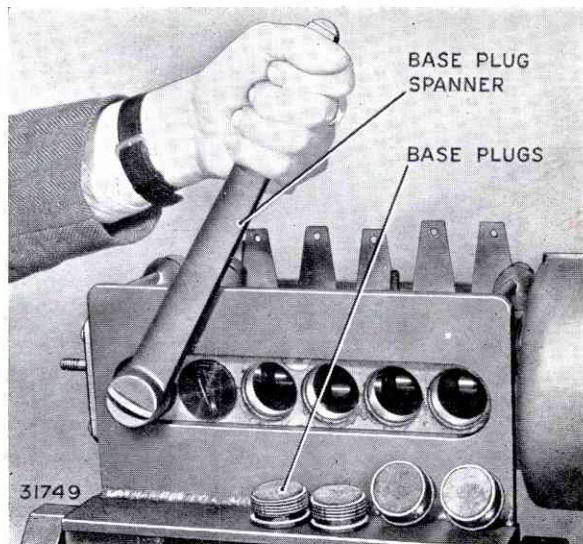

FIG. 64. REMOVING BASE-CLOSING PLUGS
5. Unscrew the base closing plugs (Fig. 64).